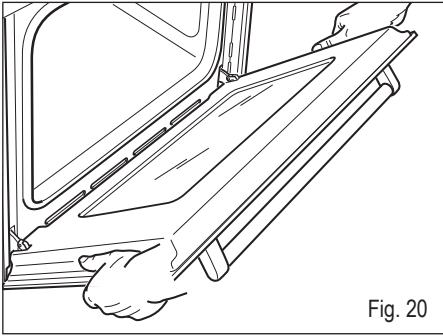
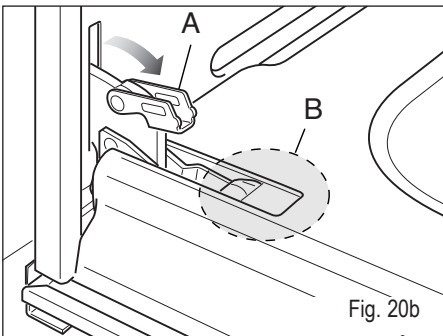

Fig. 20
Fig. 20b
- Open the lever “A” completely on the left and right hinges (fig. 20b).
- Hold the door as shown in fig. 20.
- Gently close the door (fig. 20) until left and right hinge levers “A” are hooked to part “B” of the door (fig. 20b)
- Hold the door firmly (fig. 20).